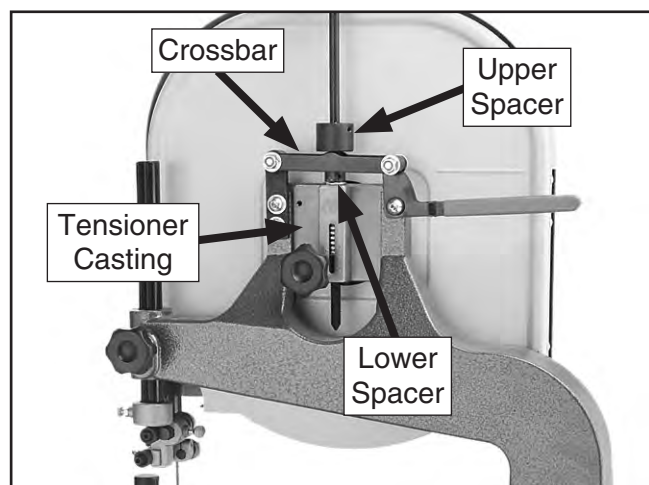

Figure 68. Locations of spacers and tensioner crossbar.
2. Move the blade tension lever up to the vertical position to release blade tension, then loosen the set screws on both spacers shown in **Figure 68**.